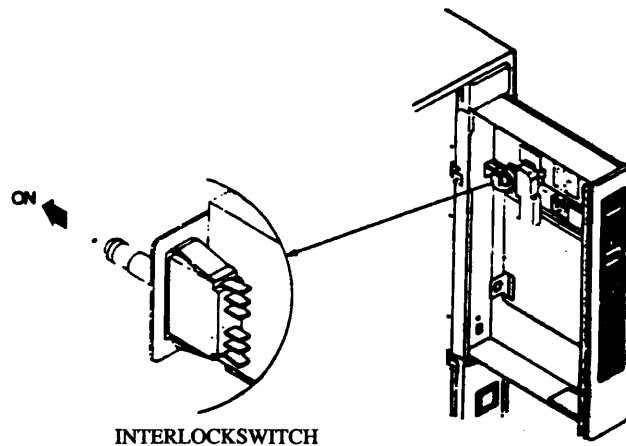

FIGURE 4
- \* Check to ensure that power is present. Remember when you pull out the sliding drawer, the safety interlock will shut off the power to the control board. To re-energize the control board, pull the plunger out on the safety interlock switch located at the back of the pull out drawer. For the location of safety interlock (See figure 4 on page 10).
- \* Operate each dispenser, using coins. Operation should be smooth. Remember; the safety interlock must be energized in order to test out the changer. To energize, pull out the plunger on the safety interlock switch located at the back of the pull out drawer (See figure 4 on page 10).
**Note:** The safety interlock switch that turns on the power to the drawer is located in the rear, as shown in figure 4.